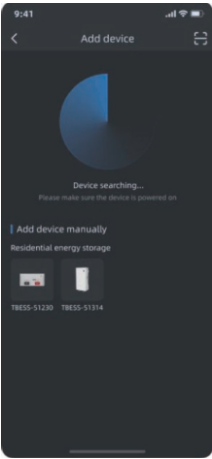

Figure 1
- 1)Figure 1: After enabling Bluetooth on the phone, start searching for Bluetooth signals from surrounding devices and try to add them as close to the device as possible. You can also click "manually add" or "scan code to add" to switch the adding method.